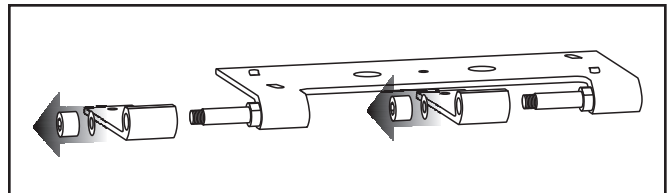

Figure 2. Steps 1–2
- 1 Prepare a flat surface with padding and sheets to protect the speaker as you work on it. Carefully place the EFX face down on the work surface, using books or pieces of cardboard to keep the speaker from rocking. Using a 6mm Allen tool remove the two cap nuts located on top of the cylindrical hinges and place them aside. Carefully remove the wall bracket from the cabinet by sliding it towards the bottom of the speaker (see figure 2).